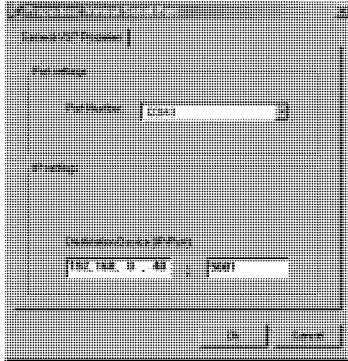

Figure 10: The Virtual Serial Port Properties Window
2. Press the **Add VSP** button to add a serial port and type the IP settings according to the IP address and local port of your **FC-10ETH** (see Figure 10).